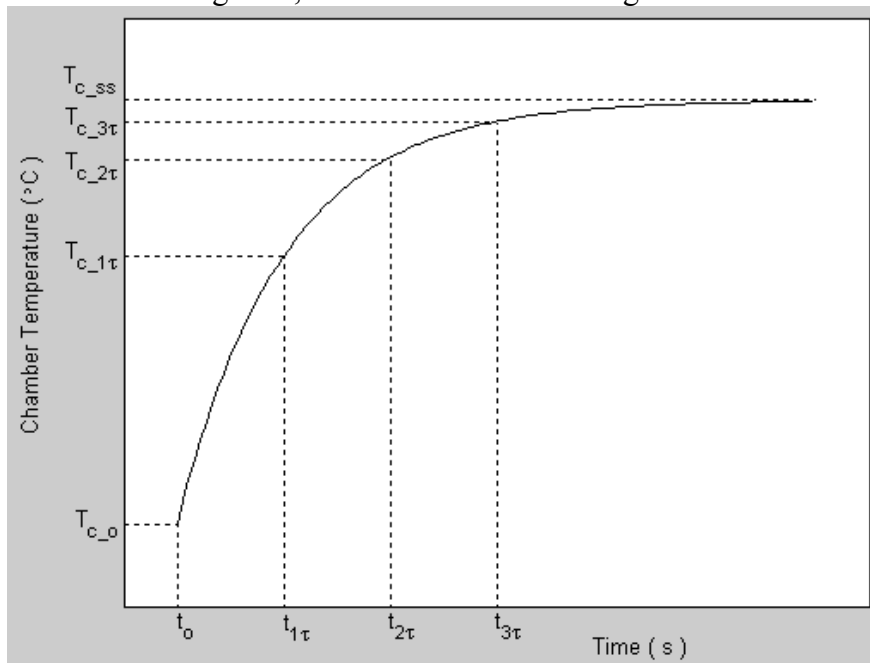

Figure 2 Model Parameter Estimation From A First-Order Step Response During Heating
As defined in Equation [1], the HVAC system steady-state gain and time constant during heating, i.e. K_{ss_h} and τ_h , can be determined experimentally by analyzing the system open-loop response to a step input. A typical first-order temperature response to a heater voltage step input is illustrated in Figure 2, below. The blower voltage is held constant at zero.
During the laboratory session you will obtain the system responses to different amplitudes, K_{v_h} , of step input voltage to the heater. For each experimental step response, the following parameters, as shown in Table 3 and illustrated in Figure 2, should be measured:
The time parameters presented in Figure 2, above, are characterized below such that $t_{1\tau}$ is defined by:
1. Applying the theory associated with first-order systems, determine the chamber temperatures $T_{c_{1\tau}}$, $T_{c_{2\tau}}$, and $T_{c_{3\tau}}$, obtained at the times, $t_{1\tau}$, $t_{2\tau}$, and $t_{3\tau}$, respectively. This is illustrated in Figure 2, above. The expressions obtained for $T_{c_{1\tau}}$, $T_{c_{2\tau}}$, and $T_{c_{3\tau}}$ should be functions of T_{c_0} and $T_{c_{ss}}$.
2. As illustrated in Figure 2, above, the measurement times $t_{1\tau}$, $t_{2\tau}$, and $t_{3\tau}$ can be estimated by locating $T_{c_{1\tau}}$, $T_{c_{2\tau}}$, and $T_{c_{3\tau}}$, respectively, on the experimentally-obtained step response plot and by measuring their corresponding time values. As induced by Equations [4], [5], and [6], each measurement time results in an estimate of the heater open-loop time constant τ_h . Express the resulting time constant estimates, namely τ_{h1} , τ_{h2} , and τ_{h3} , as functions of t_0 and the measurement times $t_{1\tau}$, $t_{2\tau}$, and $t_{3\tau}$, respectively.
Step 6. Make a screen capture of the obtained step response plot once the response has reached steady-state and join a printout to your report. Your actual response should look similar to the theoretical temperature heating plot presented in Figure 2.